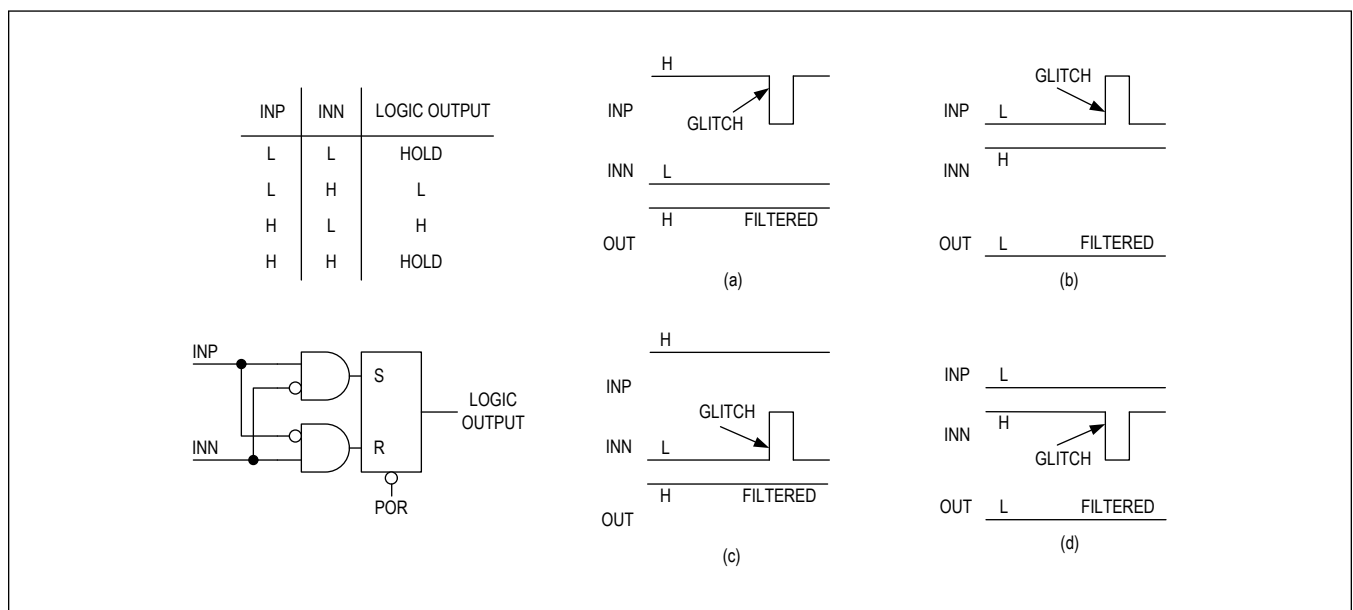
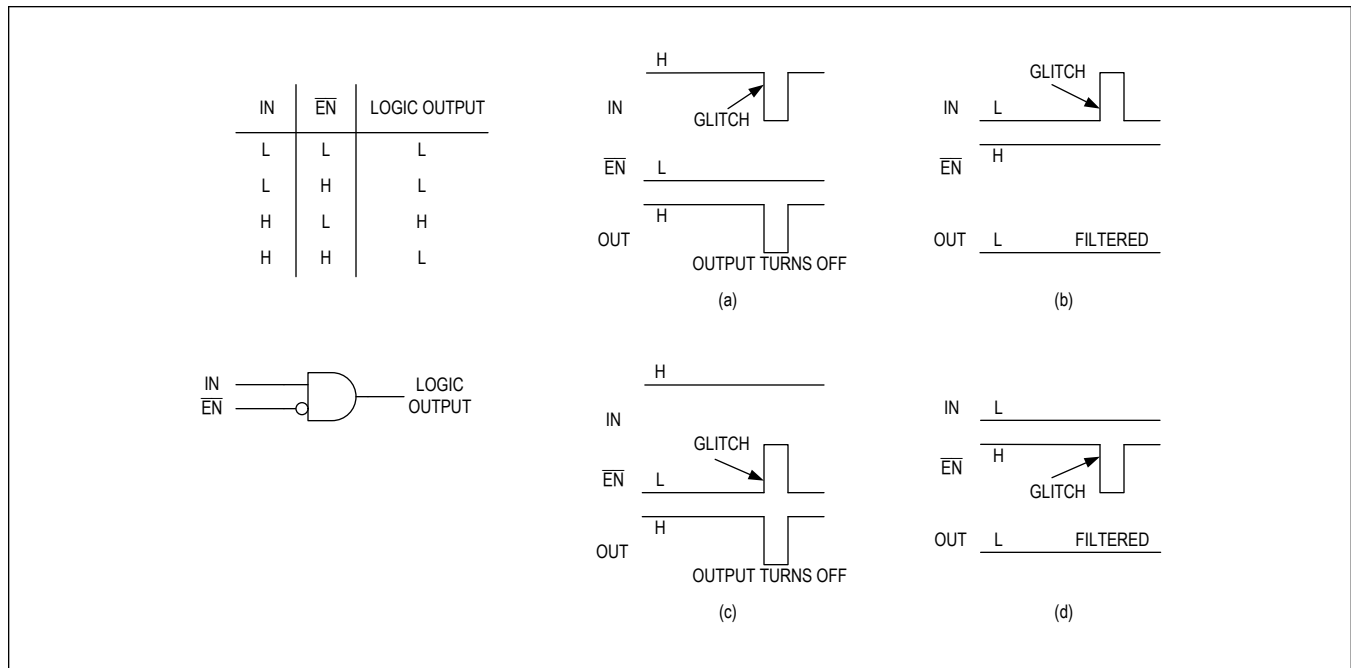

Figure 3. MAX2270_D Differential Inputs
Figure 4. MAX2270_E Single-Ended Input with Enable
The MAX2270_D features differential PWM inputs (INP and INN). The differential inputs reject input glitches and prevent false turn-on of the output. The output holds the previous value when a glitch is detected on either input (Figure 3). The MAX2270_E features a single-ended input (IN) and an active-low input enable (\overline{EN}). The \overline{EN} pin allows the output (OUT) to be quickly set to logic-low, turning off the external power transistor. The output remains at logic-low until the PWM input (IN) receives a logic-high signal (Figure 4).